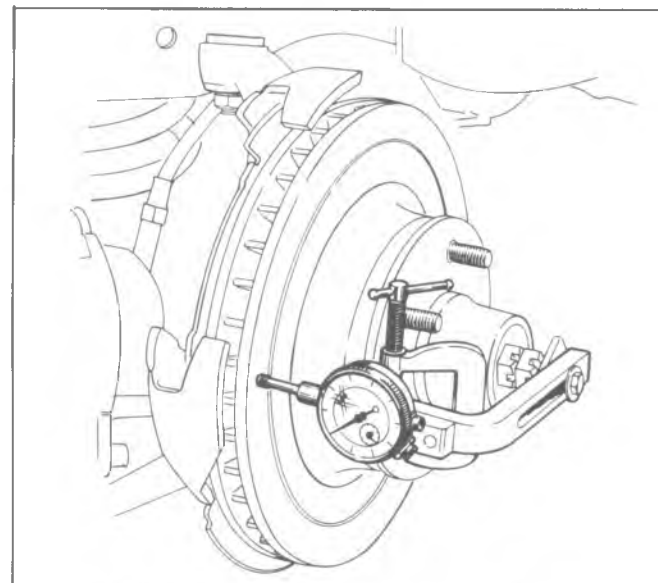

Fig. 5-43—Checking Rotor for Lateral Runout
3. To check lateral runout, first tighten the wheel bearings until all of the play is out of the bearings. Fasten a dial indicator to some portion of the suspension so that the point of the stylus contacts the rotor face approximately one inch from the rotor edge (fig. 5-43). Set the dial at zero. Move the rotor one complete rotation, checking the